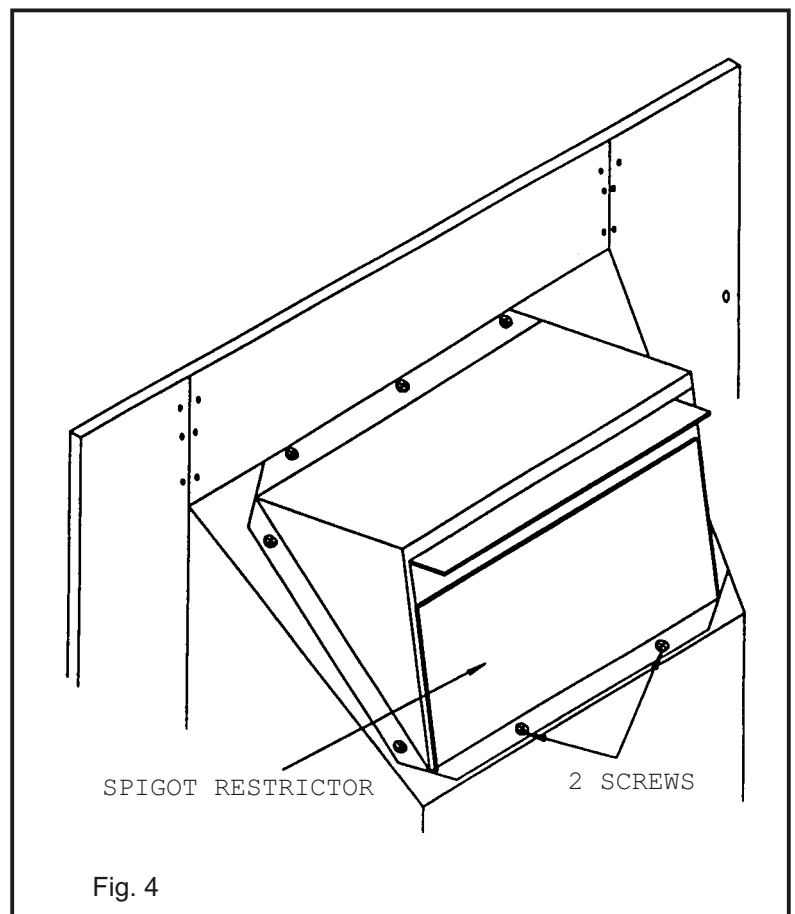

Fig. 4
**DO NOT** fit the spigot restrictor if installation is to a **PRE-CAST FLUE** or a **METAL FLUEBOX / 5 INCH FLUE**. Fit the spigot restrictor if applicable using 2 screws (Fig. 4).